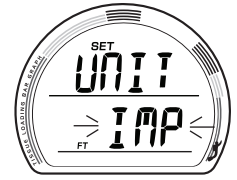

Fig. 38 - SET UNITS
**SET UNITS**, information includes (Fig. 38):